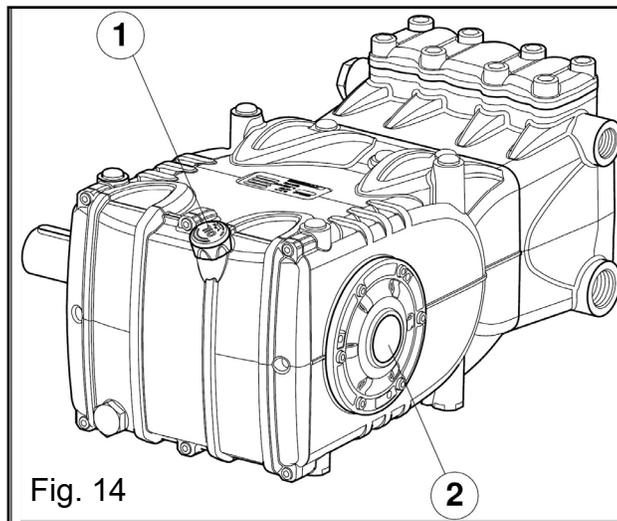

Fig. 14
5. Oil in the pump casing is at level, verified with a dipstick (fig. 14, pos. 1) and exceptionally with a level indicator (fig. 14, pos. 2).